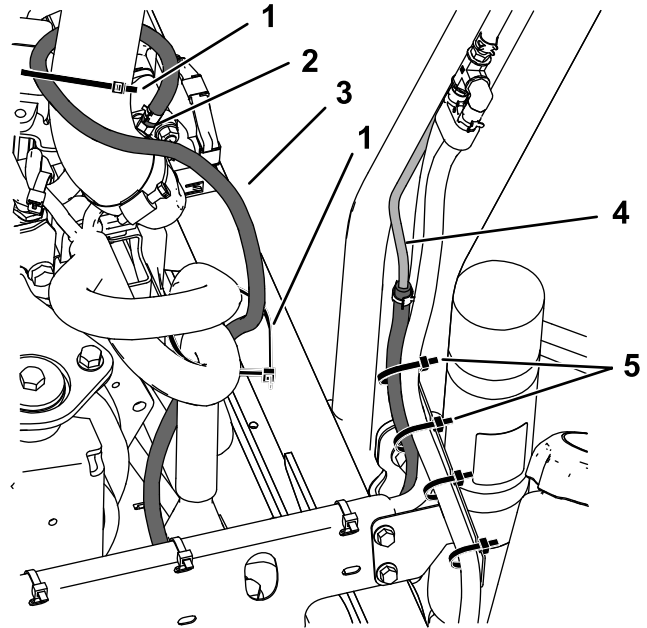

**Figure 11**
9. Connect the left hose (1/4 x 19 inches) to the fitting near the filler neck using a hose clamp (1/2 inch) as shown in Figure 11.
12. Secure the hose to the small bracket using 2 cable ties (Figure 11).
3. Place the seat on the fuel tank so that the seat brackets are between the kit brackets and the fuel tank (Figure 11 and Figure 12). Connect the wire harness to the seat.